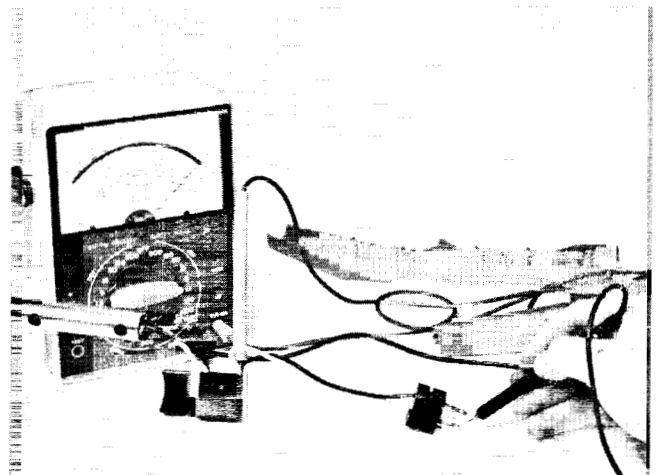

Figure 4.0
4.0 TEST UPPER HARNESS (fig. 4.0)